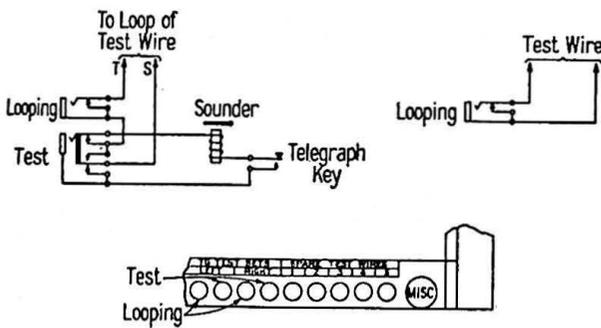

Fig. 8.—Telegraph testing set (two are provided); a test wire terminated in a looping jack; jack arrangement and designation for test wires.
3.16 Provision for the operation of two test wires is made in each position, the telegraph keys being located on the keyshelf and the sounders above the jacks in the face equipment. The circuit arrangement is shown in Figure 8. It will be noted that two jacks are provided in connection with each telegraph test set, a "looping" jack on the left and a "test" jack on the right, mounted with the miscellaneous jacks.